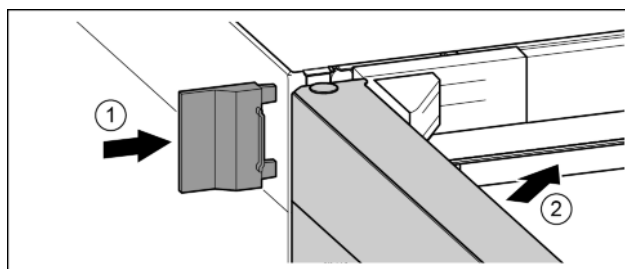

Fig. 18
- Slide on the external cover. Fig. 18 (1)
- Close the upper door. Fig. 18 (2)